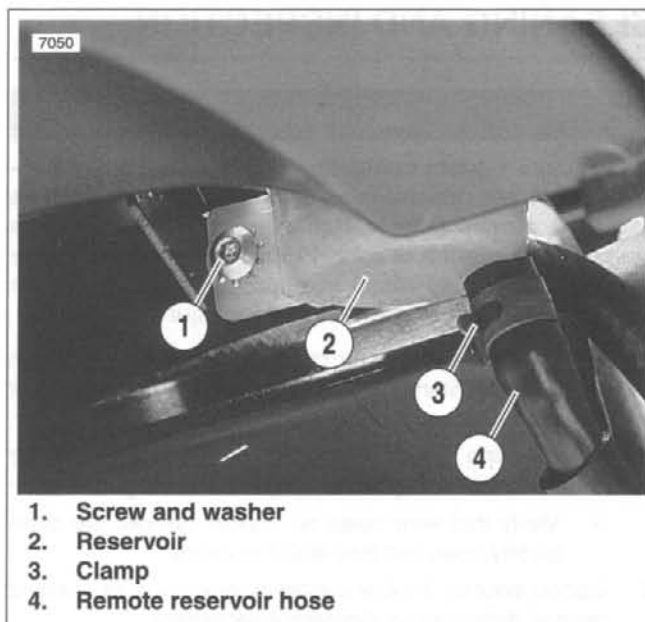

Figure 2-81. Remote Reservoir
7. See Figure 2-81. Detach remote reservoir.
1. See Figure 2-81. Connect remote reservoir.